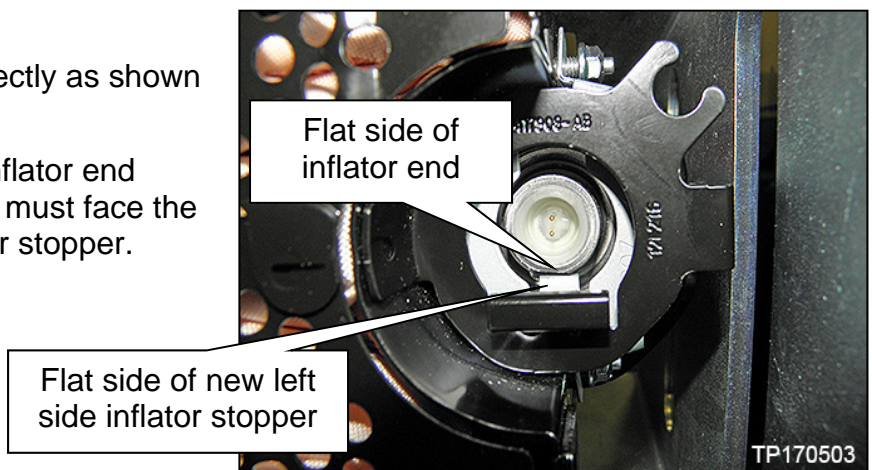

Figure 43
42. Make sure the inflator is positioned/oriented correctly as shown in Figure 43.